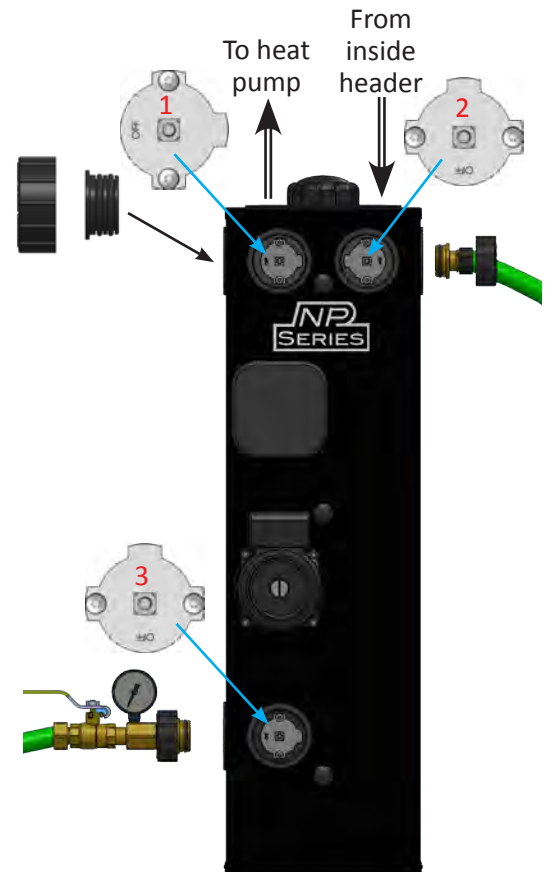

Figure 16: Filling each circuit with fluid
8. Rotate valves #1 through #3 as shown in Figure 16. These valve positions will direct the fluid from the source to the loop and back through the discharge hose.